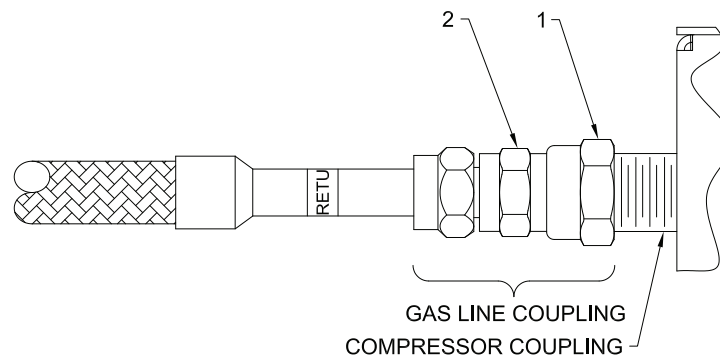

Figure 5-3: Connect Gas Line to Compressor
5. Connect the SUPPLY gas line to the compressor's SUPPLY coupling. When tightening the connection, place a 19 mm (3/4") wrench on the freely-rotating part of the female coupling half (position "1" in Figure 5-3) on the gas line and a 16 mm (5/8") wrench on the base of the female coupling half (position "2") on the gas line. Hold the 16 mm (5/8") wrench steady, turn the first wrench clockwise to tighten the connection. **Torque all couplings to 8 to 10 N•m (6 to 8 lb•ft). (Use 14 to 16 N•m or 10 to 12 lb•ft if both the male half and female half are Aeroquip/Parker 5400 series couplings).** Fully tighten each coupling before proceeding to the next one.